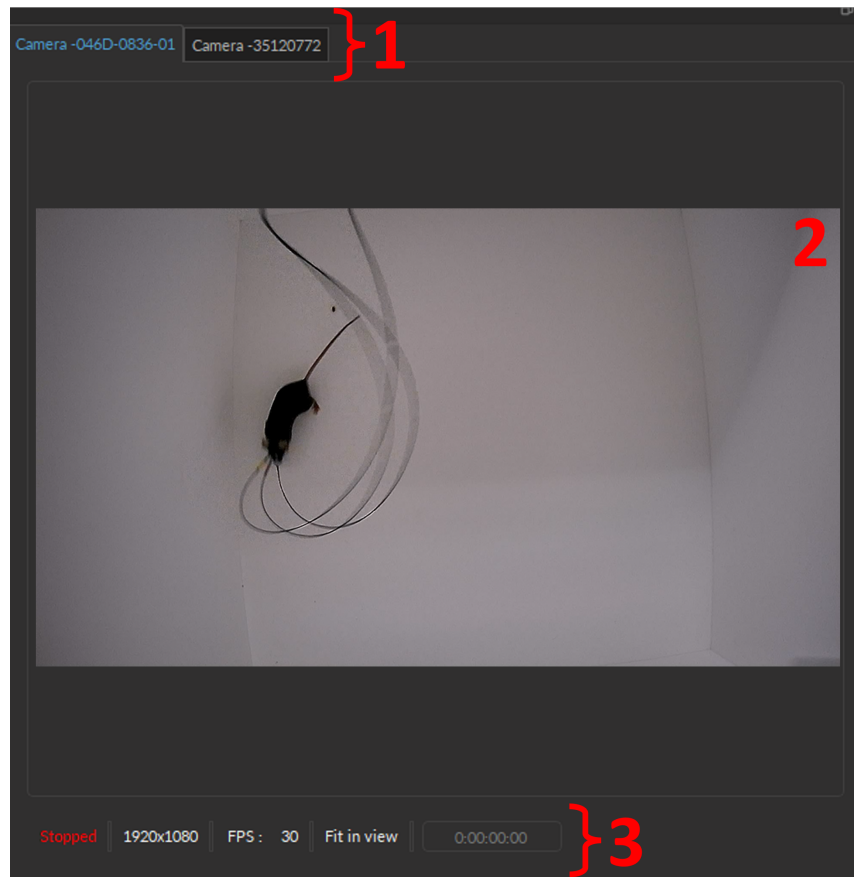

Figure 16.19: Camera View
1. The **Sensor Tabs** (Fig. 16.19, 1) allows users to select which **Camera Channel** (if there are more than one camera channels) to view since only one **Camera Feed** can be displayed at a single time.
2. The **Camera Feed** (Fig. 16.19, 2) displays the video footage of the selected **Camera Tab** (in blue). Toggle between the Tabs to see the video feed from a different camera.
3. The **Live Monitoring Bar** (Fig. 16.19, 3) tracks the current parameters of the camera, including: